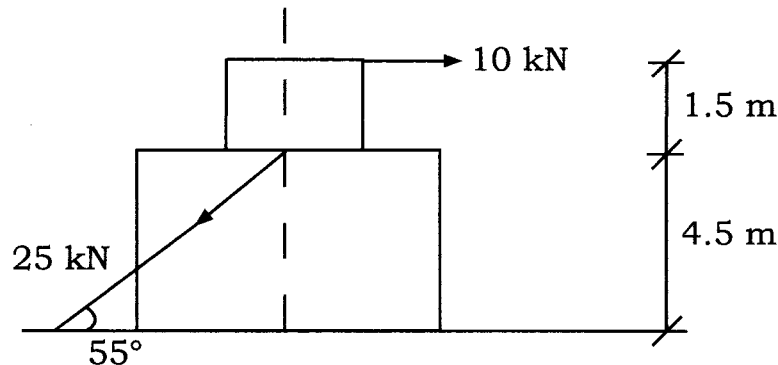

Figure 2.1
- Q2.** (a) A hollow circular steel pole is vertical and 6.0 m high and fixed at the bottom as shown in Figure 2.1. It is made in 2 sections. The top 1.5 m having a moment of inertia equal to 4680 cm^4 and lower 4.50 m having a moment of inertia of 6600 cm^4 . The horizontal pull of the pole is counter acted by a force of 25 kN in the stay located as shown in Figure. Calculate the deflection of the pole at top. Neglect all other deformations except those due to bending action. E for steel $E_s = 210 \text{ GPa}$. **15**